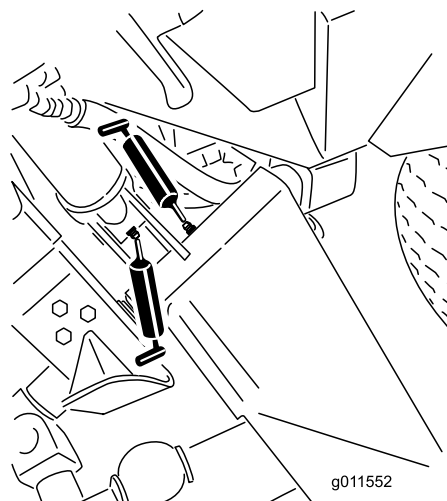
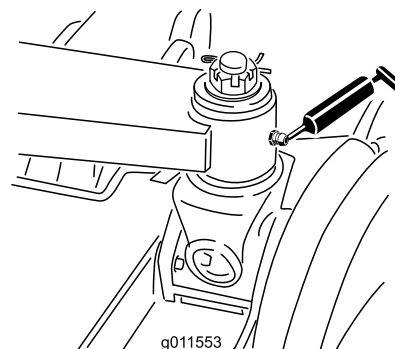

Figure 48
Figure 49
- 6 main lift-arm bushings (Figure 48 and Figure 49)